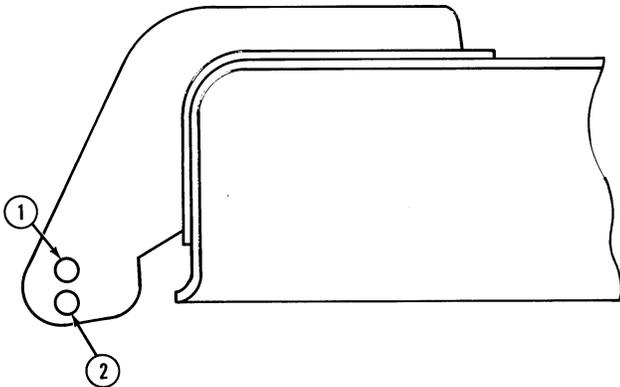

Figure 8
- The mower may scalp while cutting on uneven terrain at a low height of cut. The front anti-scalp roller is adjustable. Set it in the high position (1), Figure 8, for 1-1/2 and 2 inch mowing, and in the low position (2), for all mowing heights above 2-1/2 inches.